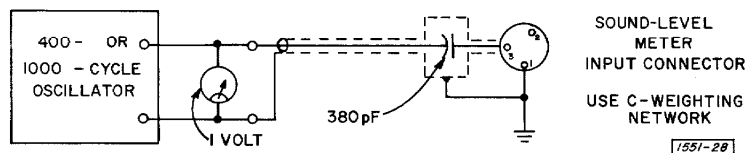

Figure 7. Circuit for Calibrating Amplifier Gain.
4.9 INTERNAL NOISE. Internal noise should not normally affect readings with the attenuator switch set at 40 or higher. If desired, the following procedure can be used to determine how much noise is generated in the instrument. Remove the microphone, and connect a 380-pf capacitor across terminals 1 and 3 of the microphone socket. This capacitor and its connecting leads must be completely shielded in a metal can connected to either the metal part of the microphone socket or to terminal 1, which is grounded. The connection is identical to that shown in Figure 7, except that a short circuit replaces the oscillator.
4.10 AMPLIFIER GAIN. With the Sound-Level Meter set for normal operation with C weighting, apply a 1.0-volt, 400- or 1000-cycle signal to the microphone socket through a shielded 380-pf capacitor, as shown in Figure 7. The meter reading should agree with that given below for the sensitivity of the microphone used. (Microphone sensitivity is listed at the front of this manual, as well as on a label inside the instrument.)